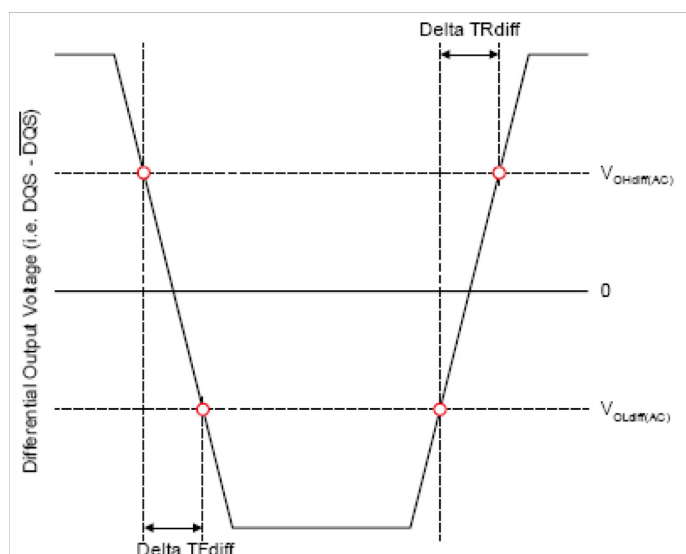

Figure 97 — Differential Output Slew Rate Definition
With the reference load for timing measurements, output slew rate for falling and rising edges is defined and measured between VOLdiff(AC) and VOHdiff(AC) for differential signals as shown in Table 34 and Figure 97.